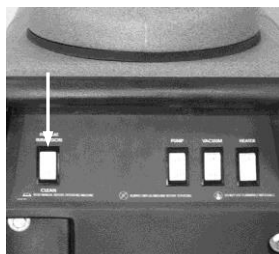

Fig. 4
3. Turn on immersion heater to preheat solution in tank. (Figure 4).